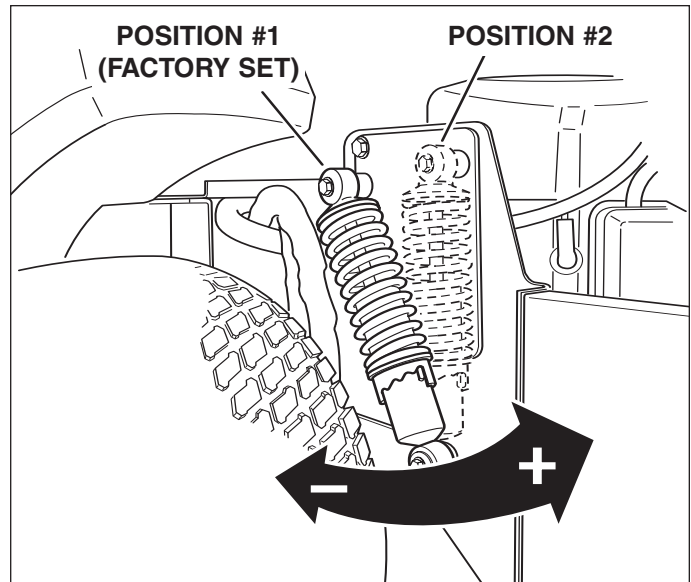

Figure 26. Rear Suspension Adjustments
4. See Figure 26. Using the supplied spanner wrench (p/n 5022853), insert the tip of the wrench into the notch in the pre-load adjuster. While holding the wrench in place with one hand, turn COUNTER-CLOCKWISE to increase the pre-load, turn CLOCKWISE to decrease the pre-load. Make sure both shocks are set to the same amount of pre-load.
4. Remove the upper shock mounting hardware and pivot the shock to the position #2 (see Figure 26). Adjust the jack to align the shock mounts to the shocks.